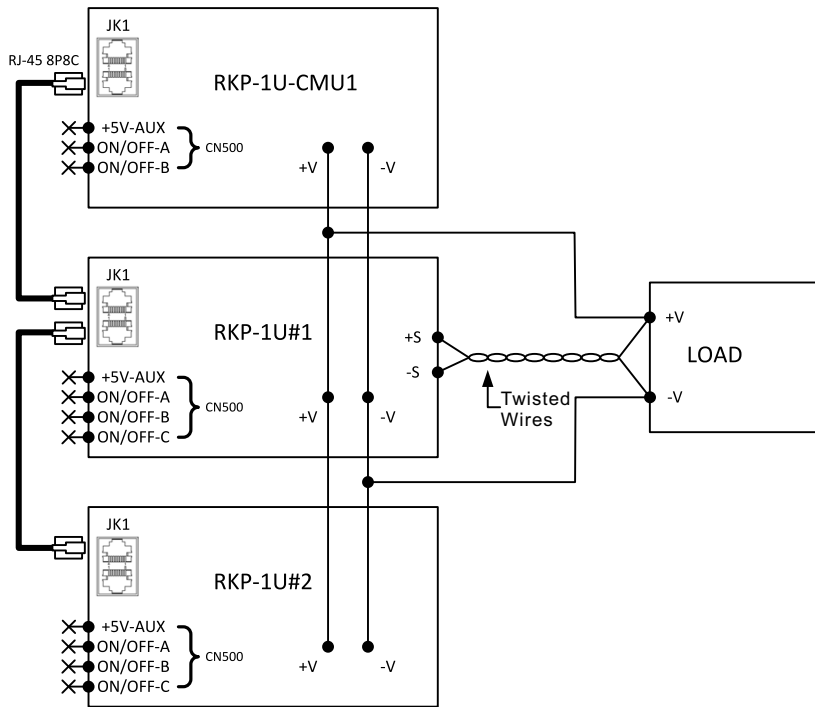
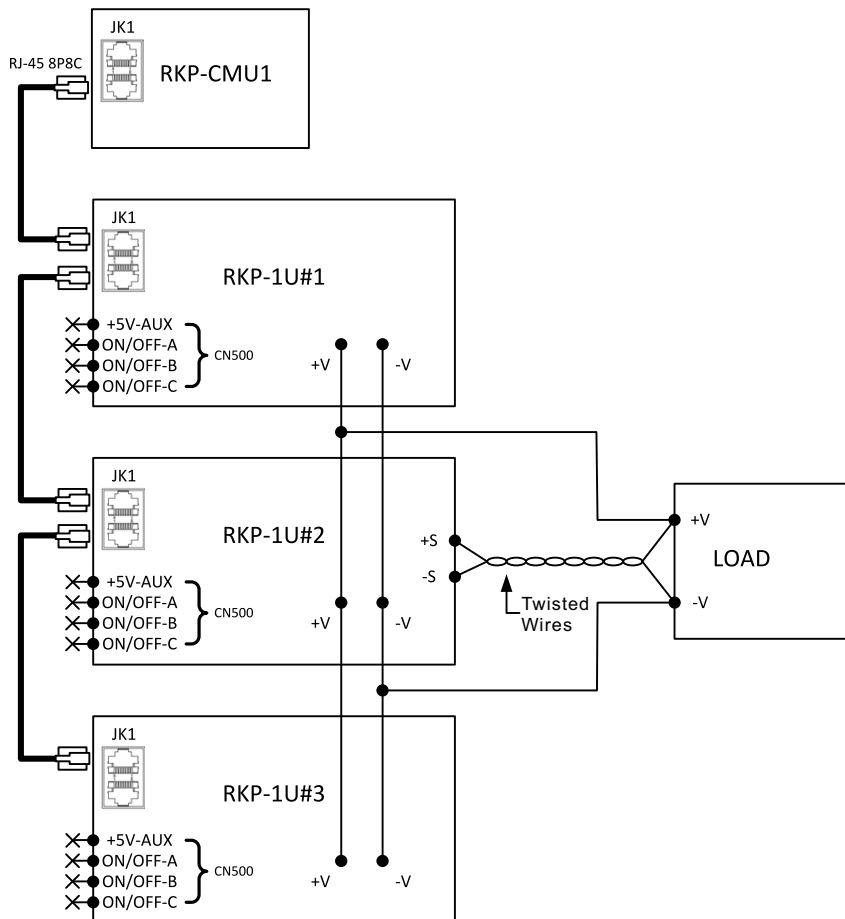

Figure 3-2 Configuration of a RKP-1U-CMU1 and two RKP-1Us
Figure 3-3 Configuration of a RKP-CMU1 and three RKP-1Us
- ©Connect rack units in parallel before linking to the load. Do not connect rack units to the load separately. Refer to Figure 3-2 and Figure 3-3.
- ©Use twisted wires for the wiring of +S and S. The twisted wires should not touch the load wires to avoid interference. Refer to Figure 3-2 and Figure 3-3.
- ©Parallel operation of rack units is only suitable for the identical RCP-2000 units, namely units with the same output voltage and current rating. Up to three rack units including a RKP-1U-CMU1 and two RKP-1Us (eight RCP-2000 units) can be connected in parallel, as Figure 3-2 shows.
- ◎ RKP-CMU1 is capable of monitoring and controlling up to three RKP-1Us (nine RCP-2000 units). Please refer to the user's manual of RCP-2000/RKP-1U and Figure 3-3 for notes on parallel operation of RKP-1Us.